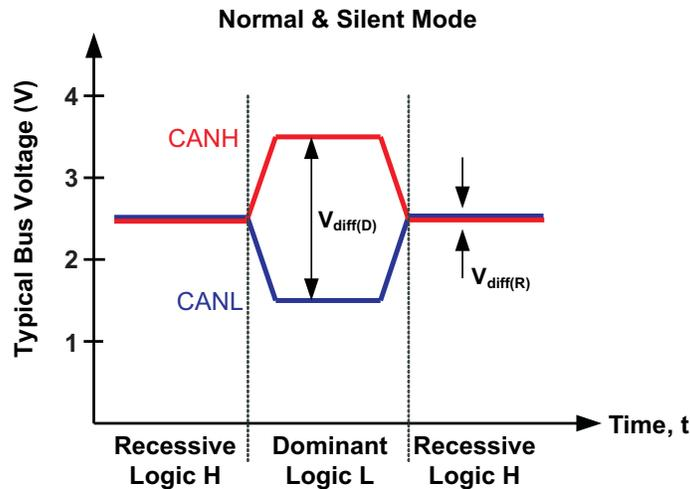
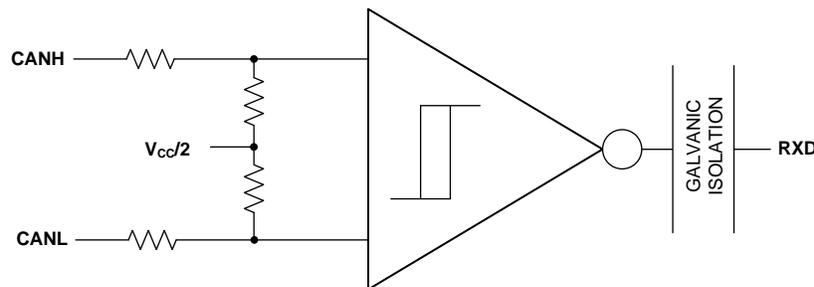

Figure 23. Bus States (Physical Bit Representation)
Figure 24. Simplified Recessive Common Mode Bias and Receiver
The CAN bus has two states during operation: *dominant* and *recessive*. A dominant bus state, equivalent to logic low, is when the bus is driven differentially by a driver. A recessive bus state is when the bus is biased to a common mode of VCC / 2 through the high-resistance internal input resistors of the receiver, equivalent to a logic high. The host microprocessor of the CAN node will use the TXD pin to drive the bus and will receive data from the bus on the RXD pin. See Figure 23 and Figure 24.
(1) H = high level, L = low level, Z = common mode (recessive) bias to  $V_{CC} / 2$ . See Figure 23 and Figure 24 for bus state and common mode bias information.